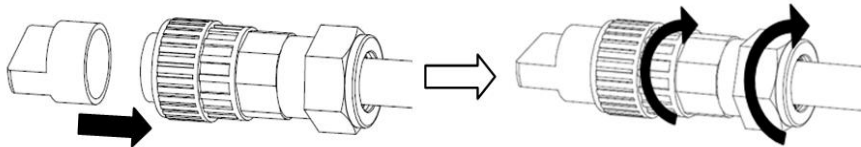

Figure 5.23 Assembly AC terminal
B) Clip plastic fixture (Auxiliary tighten) in socket element , tighten adapter in socket element, then tighten swivel nut with 3-4Nm torque (see figure 5.23).